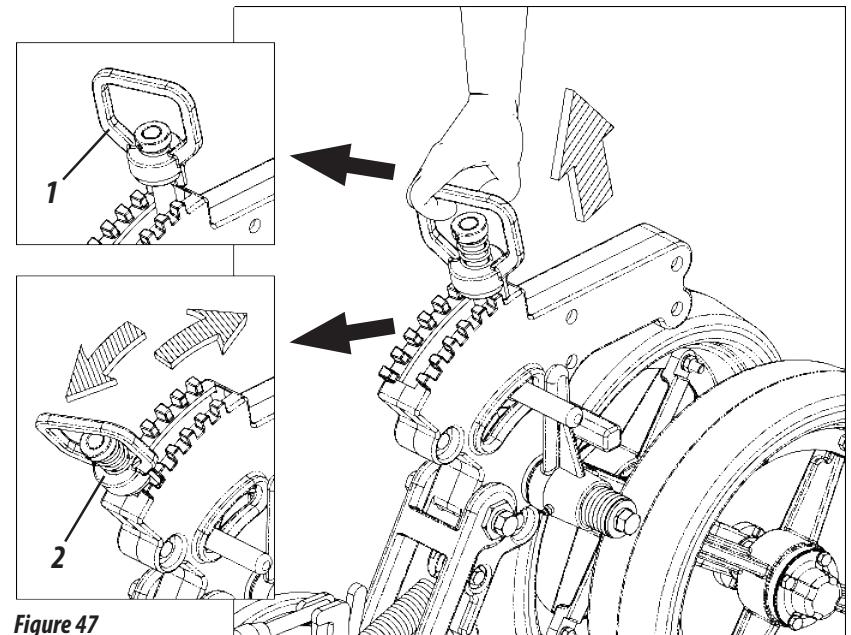

Figure 47
## OSCILLATING WHEEL DEPTH ADJUSTMENT (FIGURE 47)
- 1- Pull the handle (1) up, and move the adjuster (2) until the desired point to adjust the depth wheel (3), after lower the handle (1) latching the adjuster (2), **as shown in figure 47**.